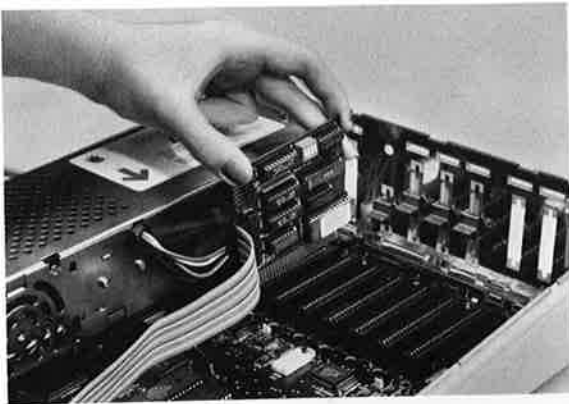
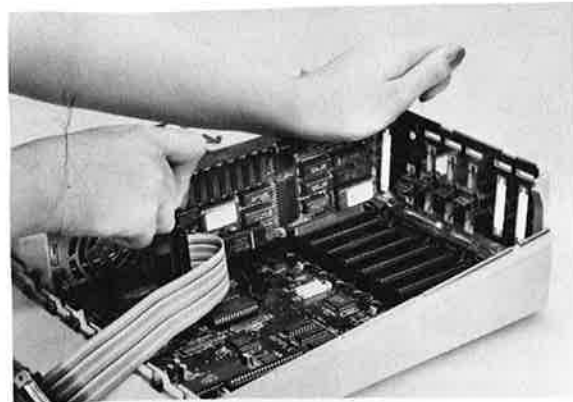

Figure 4 - Align the Parallel Pro with slot 1
Figure 5 - Insert the Parallel Pro
If you are using only the Parallel Pro, the multicolored ribbon cable should be attached to the left end with the cable feeding from the chip side of the card as shown in Figure 4.
4. **Align the edge connector's "gold fingers" with expansion slot 1 (Figure 4) and insert the card into the slot (Figure 5).** The card should enter the slot with some friction and then seat firmly. You may want to rock it gently end-to-end to help seat it.